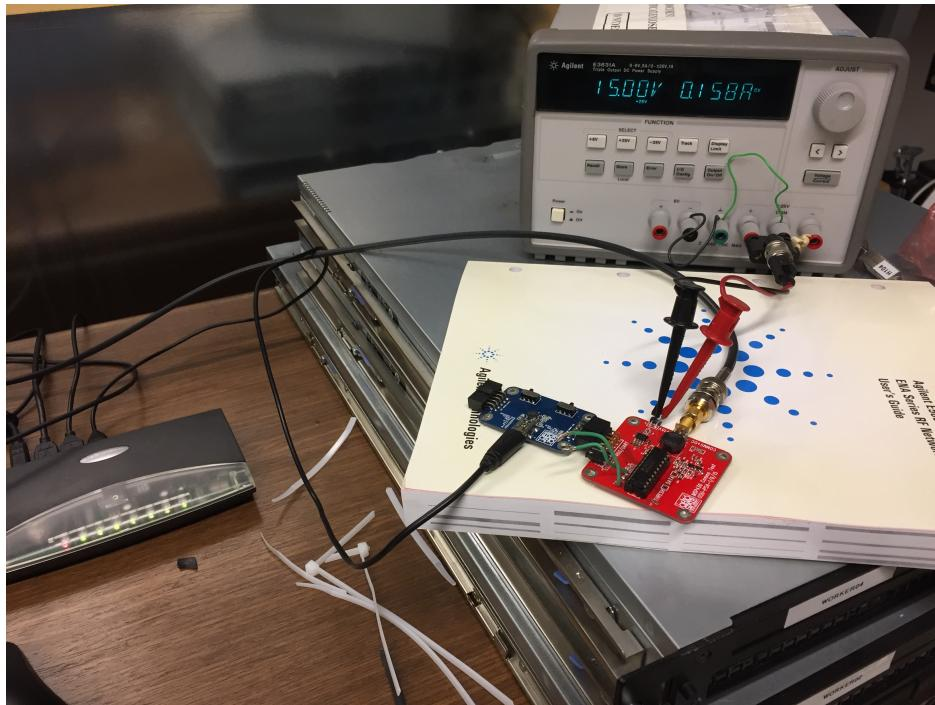

Figure 5: A photo of the complete power supply, USB-to-UART, and MSP430 comms tester ready for testing.
2. Plug the USB-to-UART converter into the comms-tester. Wire the 15V input and GND from a DC power source to the comms-tester, but do not turn the supply on yet. A photo of all devices plugged in and ready for use is given in figure 5.
4. Turn the power supply on. With only the PC board as a load (including DC-DC converters) it should draw about 20 mA. (The photo in figure 5 shows larger current draw because it was powering an alternative set-up at the time.)